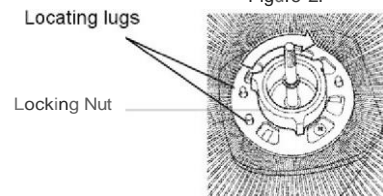

Figure 2.
6. Place the rear grille into position, ensuring that it is aligned with the locating lugs (see Figure 2). If this is done correctly, the carry handle on the grille will be at the top.
7. Fix the grille into position by replacing the rear grille locking nut tightly by hand. Do not force the locking nut (see Figure 2).